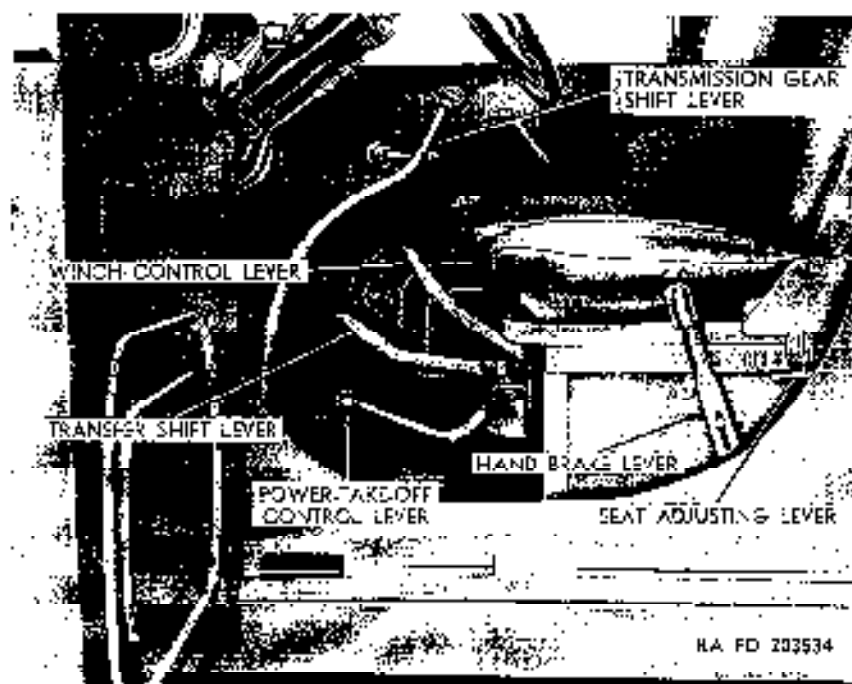

Figure 68. Driver's compartment—M246.
The transfer power-take-off control lever (fig. 68) is located to the left of the transfer shift lever in the driver's compartment of the tractor wrecker truck. Pulling up on this lever engages the power-take-off mounted on the rear of the transfer which powers the hydraulic pump used to operate the wrecker crane. Pushing down on this lever disengages the power-take-off.
c. *Towing Vehicles That Will Run In Only One Direction.* Occasionally, conditions will exist that will permit towing the truck in only one direction. This condition is caused by the front axle being locked through the overrunning clutch in the transfer for one direction. Towing in that direction will cause the wheels to skid. This condition can be corrected ((1), (3) below).
- (1) Jack up one front wheel to relieve the front axle of any binding torque load.
- (2) Open drain cock on underside of air reservoir located on the outside of the left frame side rail immediately behind the left front fender. This will bleed the air system of all pressure and allow the overrunning clutch unit in the transfer to return to neutral.
- (3) Close drain cock after pressure in compressed air system has been relieved, and lower front wheel. The front wheels will then run free in either direction.
a. Off Position. When the main switch lever (fig. 68) is in the OFF position, all circuits, both blackout and service, are open and all lights are off.